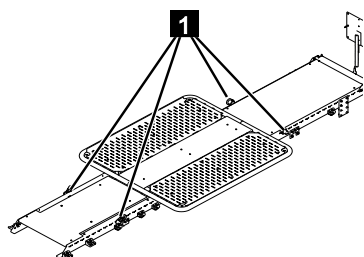

Fig. 265
1. Tighten attachment points (Fig.265/1) with the correct torque (→ Chapter 8.4.3 „Tightening torques“, on page 203) and check for damage and movability. Replace if necessary.